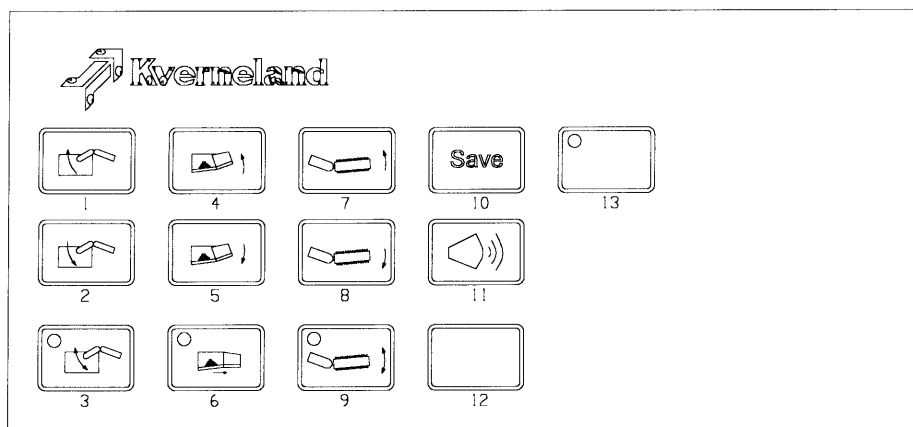

Fig. 28-2
- Extra control panel for positioning and bunker operations (Fig. 28-2)
(Fig. 28-2)